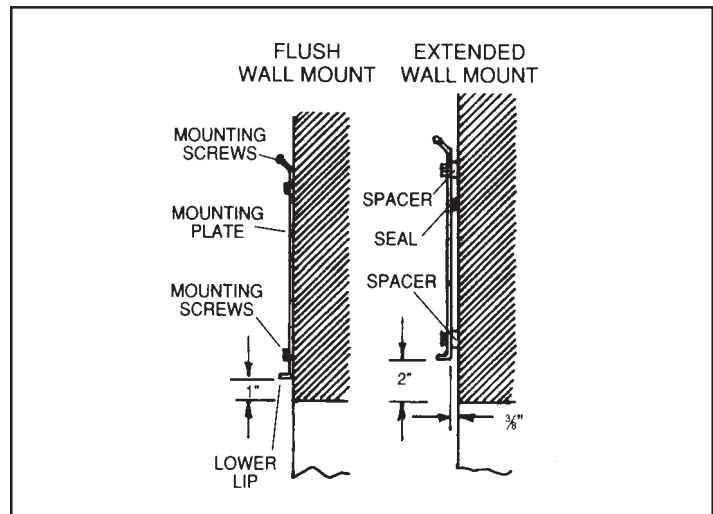

Figure 3
2. The lower lip of the mounting plate should be no more than 1" above the door opening when the unit is mounted flush to the wall. If the air door must be mounted higher, it must be spaced out from the wall $\frac{3}{8}$ " for every inch the unit is above the door opening. For the best performance, any void between the air door and the wall must be sealed (use foam, plastics or a similar packing). **See Figure 3.**